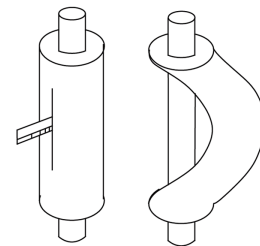

Fig. 15
- (2) Do not bend the pipe over 90°.
- (3) If pipe is repeatedly bent or stretched, it will get hard and difficult to bend and stretch again. Therefore, do not bend or stretch the bend for over 3 times.
- (4) In case that direct bending will open cracks to the pipe, first use sharp cutter to cut the insulating layer, as shown in Fig.15. Do not bend the pipe until it is exposed. When bending is done, wrap the pipe with insulating layer and then secure it with adhesive tape.